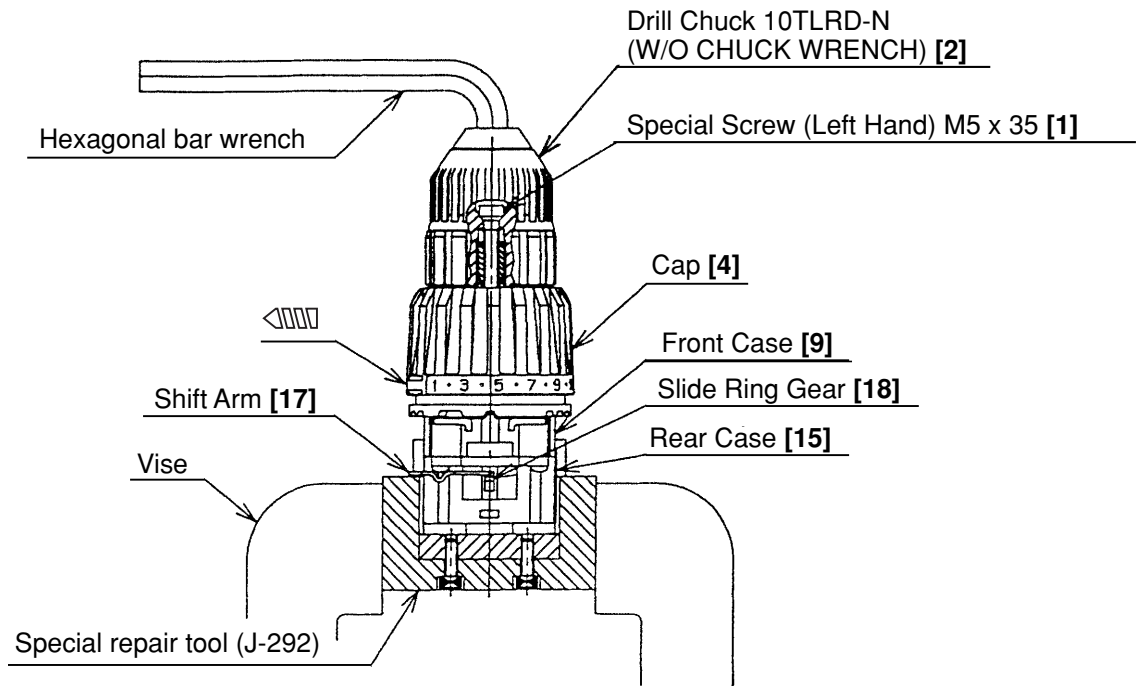

Fig. 4
(2) After Housing (B) has been removed, all the internal parts, assembled or separate, can be taken out as they are. Lift the entire contents from Housing (A) while holding the Motor **[26]** and the Cap **[4]**.
(3) Removal of the Drill Chuck 10TLRD-N (W/O CHUCK WRENCH) **[2]** (See Fig. 4.)
(b) Attach the motor spacer (an accessory of the special repair tool J-292, Code No. 316379) to the assembly of the Drill Chuck 10TLRD-N (W/O CHUCK WRENCH) **[2]**, Cap **[4]**, Front Case **[9]** and Rear Case **[15]** and then mount it in special repair tool J-292 clamped in the vise as illustrated in Fig. 4. In this operation, check that the pinion press-fitted in the special repair tool J-292 and Planet Gear (A) Set **[22]** are engaged properly.
(e) Fit the hexagonal bar wrench M10 into the Drill Chuck 10TLRD-N (W/O Chuck Wrench) **[2]** as illustrated in Fig. 4 and remove the Drill Chuck 10TLRD-N (W/O CHUCK WRENCH) **[2]** by turning the hexagonal bar wrench counterclockwise.